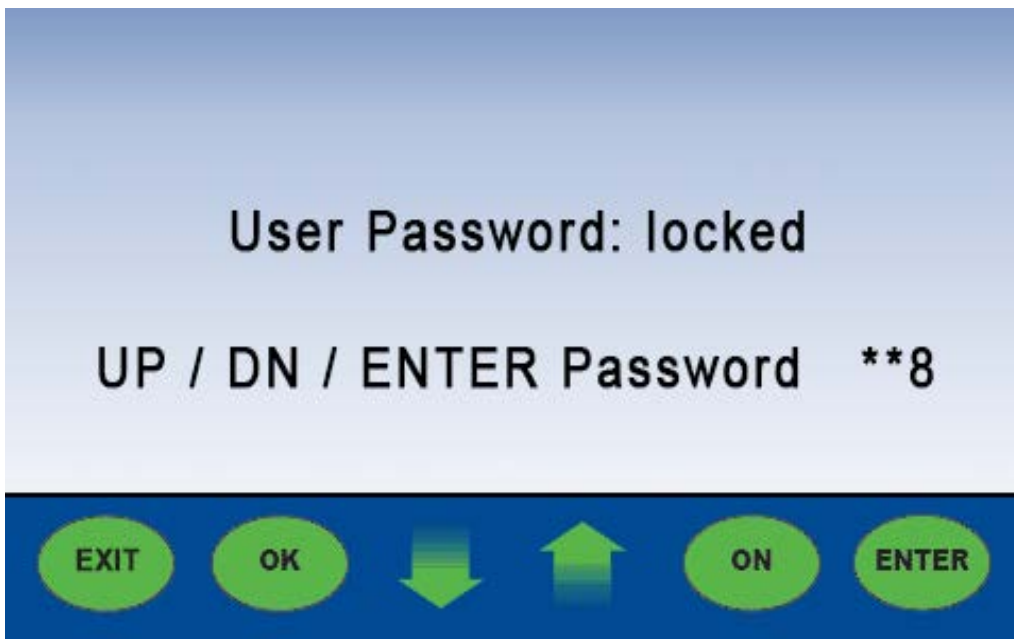

Figure 70
4. Press the **enter button**; a (*) is inputted into the field for the second number. Now, the third digit, the last digit in the password sequence, will begin to blink (**Figure 70 on page 121**).